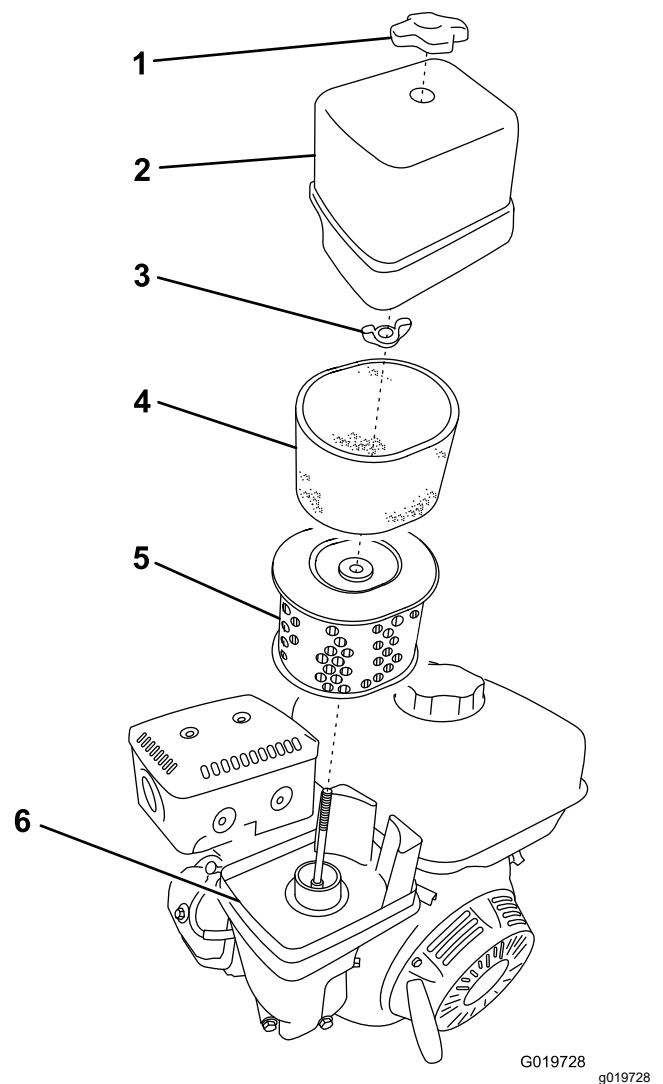

Figure 33
3. Remove the nut that secures the cover (Figure 33).
5. Remove the foam and paper elements from the base (Figure 33).
6. Remove the foam element from the paper element (Figure 33).